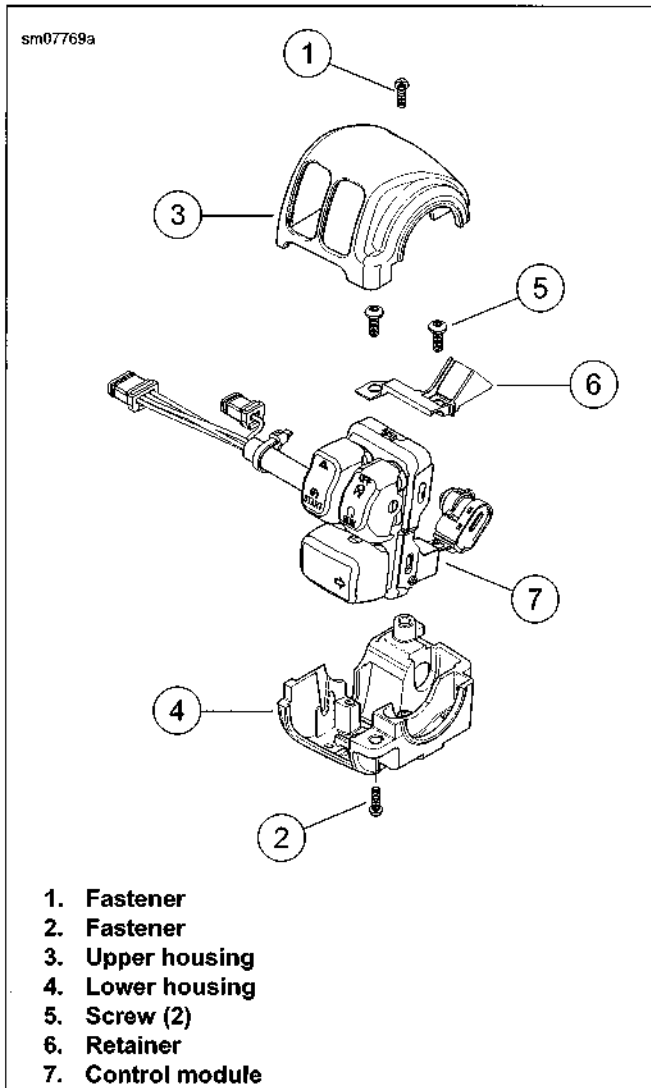

Figure 6-115. RH Switch Assembly
11. See Figure 6-115. Remove screws (5) and retainer (6).